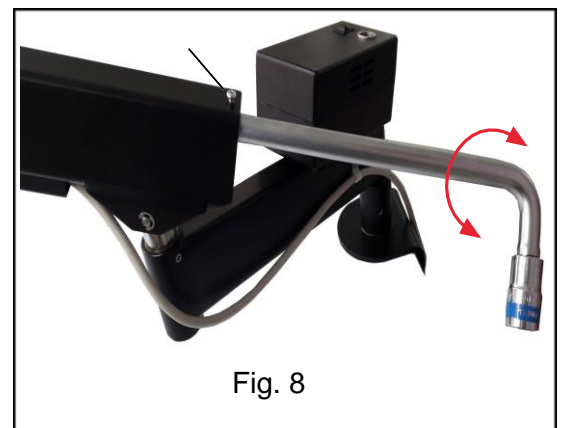

Fig. 8
The spring force for the flexible arm is factory set to approx. 2.7 kg and can be adjusted by turning screw clockwise referring Fig. 8.
4. Change the spring force using the screw in the interior as shown in Fig.8.